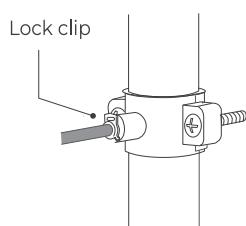

Figure 10
5. Pop the lock clip onto the fitting to secure the connection (**Figure 10**).